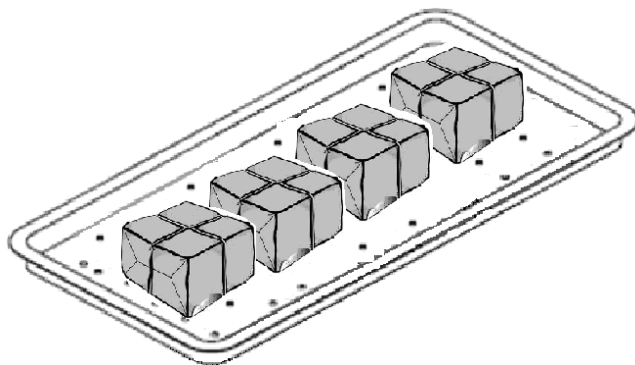

Figure 25
**Warning:** To sterilize absorbent cotton or woolen, please wrap it with a thick towel, covering cloth, linen, or sterilizing pouch to avoid piping clog according to Figure 25.